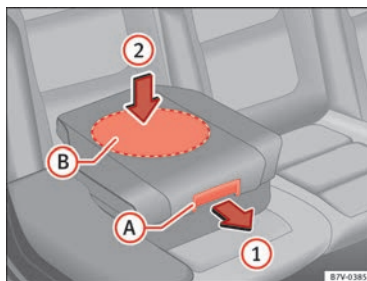

Fig. 33 Integrated child seats, lowering the cushion.
- Pull the unlock lever  $\Rightarrow$  fig. 33 (A) on the cushion in the direction of the arrow ①.
- Push the cushion down through the central area (B) in the direction of the arrow ② until it safely engages  $\Rightarrow$  ①. The side supports fold away automatically.